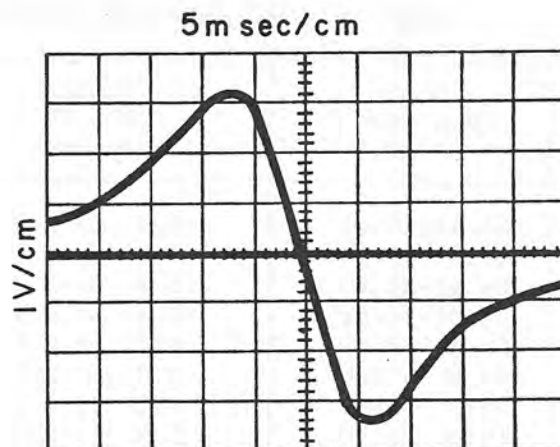

Figure 6-11. Fm Discriminator Alignment, Typical Waveform
- (j) Adjust A4A9L1 and A4A9T1 for an oscilloscope waveform which has maximum amplitude and is symmetrical and linear about the marker. See figure 6-11 for typical waveform. Refer to figure 7-20.